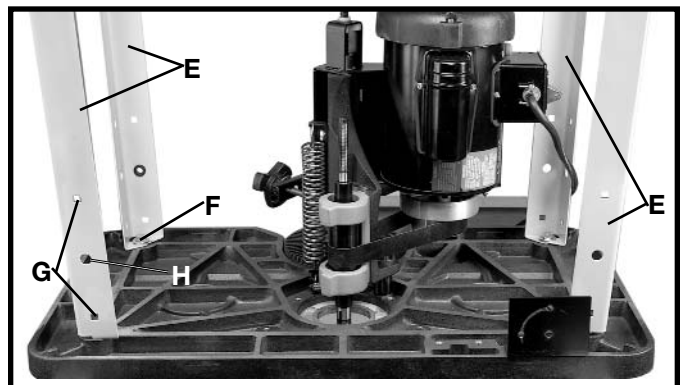

Fig. 3
1. Assemble the four legs (E) Fig. 3, to bottom of table. Align the hole in the bottom of the leg with the hole in the bottom of table. Place a 7/16" flat washer onto a 7/16-14x1" hex head screw (F) Fig. 3, insert the screw through the hole in the leg, and thread the screw into the hole in the bottom of the table. Repeat this process for the three remaining legs. **NOTE:** End of leg that has two square holes (G) and one round hole (H) is to be fastened to bottom of table, as shown. **Do not completely tighten hardware at this time.**